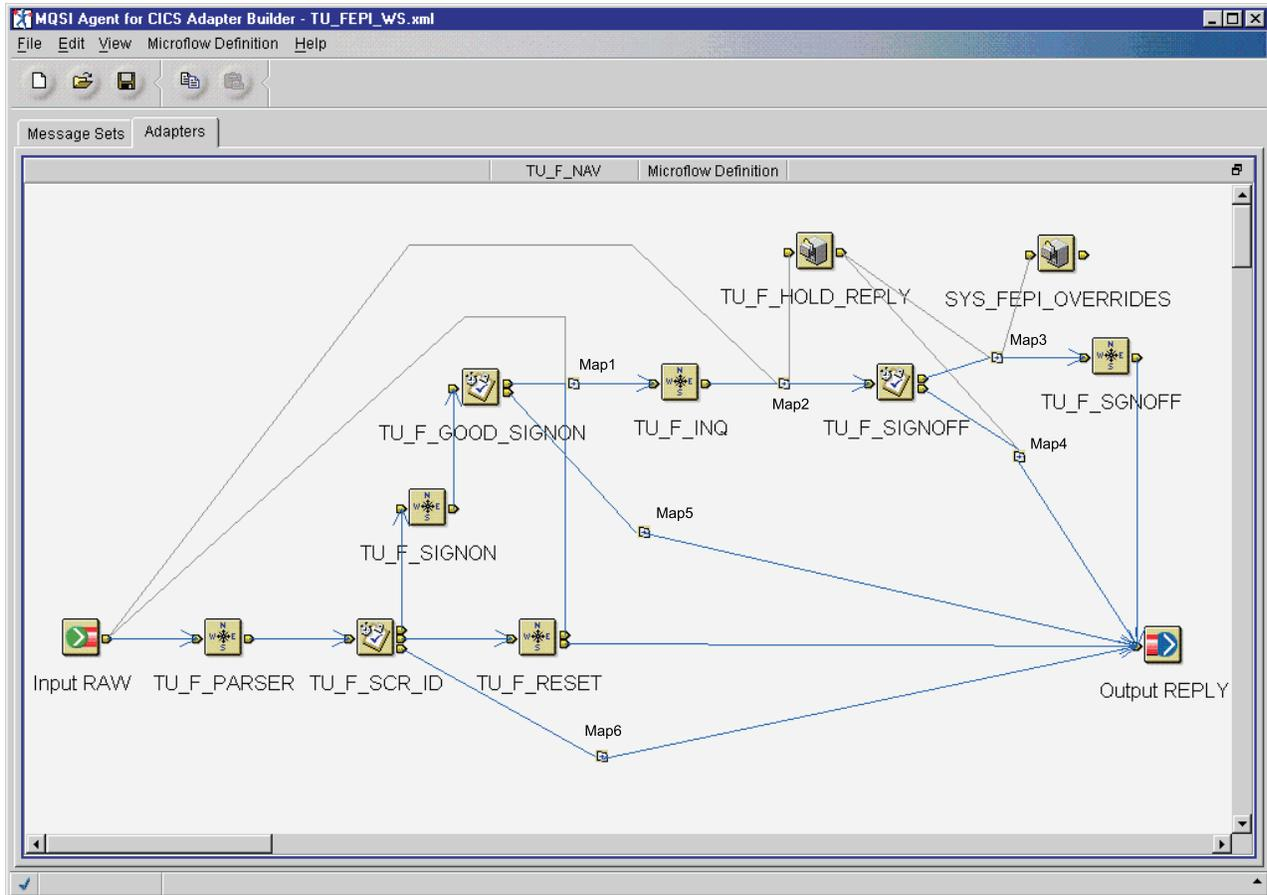

Figure 166. TU\_F\_NAV
- 1) Right click on the Input RAW Input Terminal node and select **Connect > Out**. Move the connection line to the TU\_F\_PARSER Command node and left click. This adds a control connection. Refer to Figure 166 on page 215.